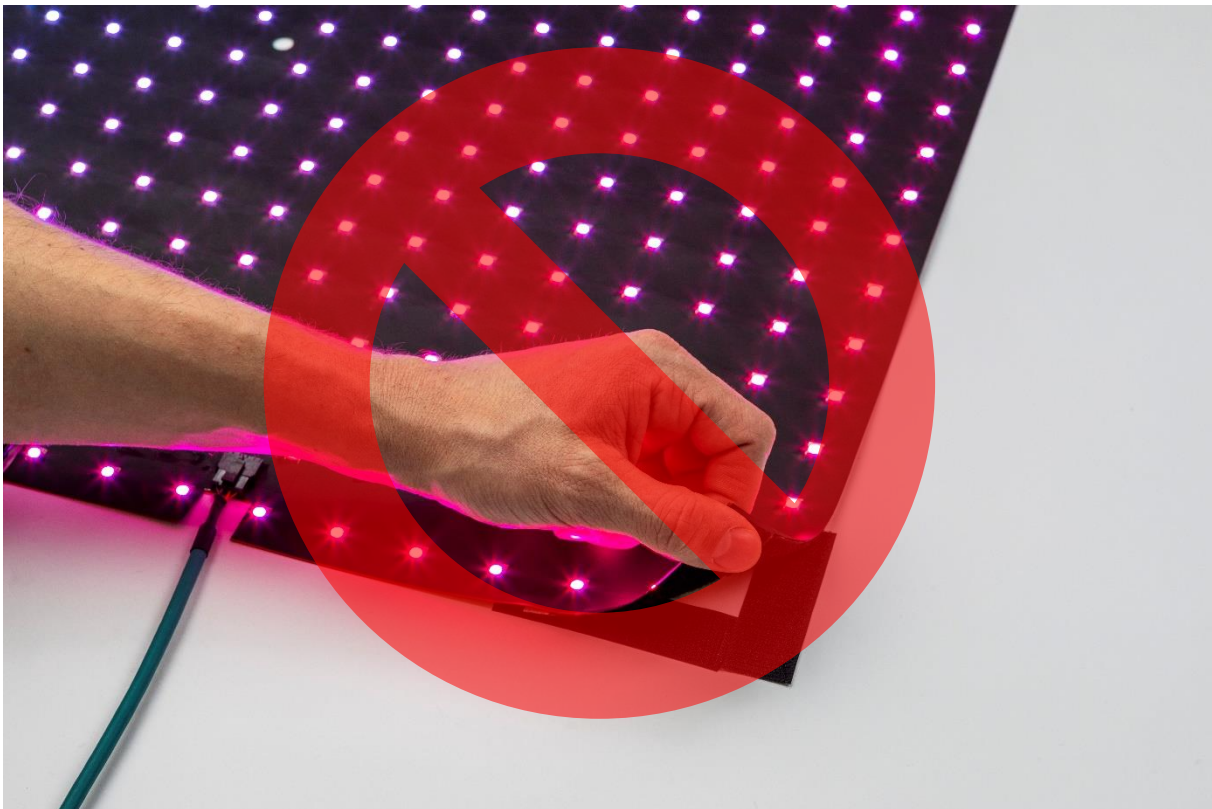

Figure 2: Excessive bending of ledTec.flex wallpaper must be avoided
- Bending beyond the maximum allowed value may lead to kinking of the foil which can also result in poor viewing experience. See Figure 2 for reference.